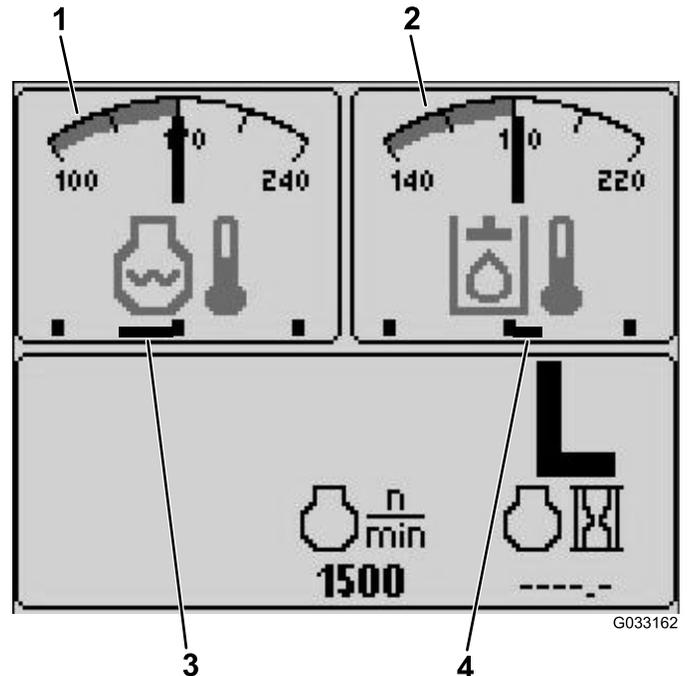

Figure 5
- Hydraulic-fluid-temperature and fan indicator—top, right screen (Figure 5)
- Engine-coolant-temperature and fan indicator—top, left screen (Figure 5)
Note: In example Figure 5, the engine-coolant fans are running at 50% speed in the reverse direction.
Fan direction is also indicated on the engine-coolant-temperature screen and the hydraulic-fluid-temperature screen. If the bar is to the right of the midpoint hash mark, the fans are running in the forward direction. If the bar is to the left of the midpoint hash mark, the fans are running in the reverse direction (Figure 5).
This display indicates the hydraulic-fluid temperature and the status of the cooling fan (Figure 5).
This display indicates the engine-coolant temperature and the status of the cooling fan (Figure 5).